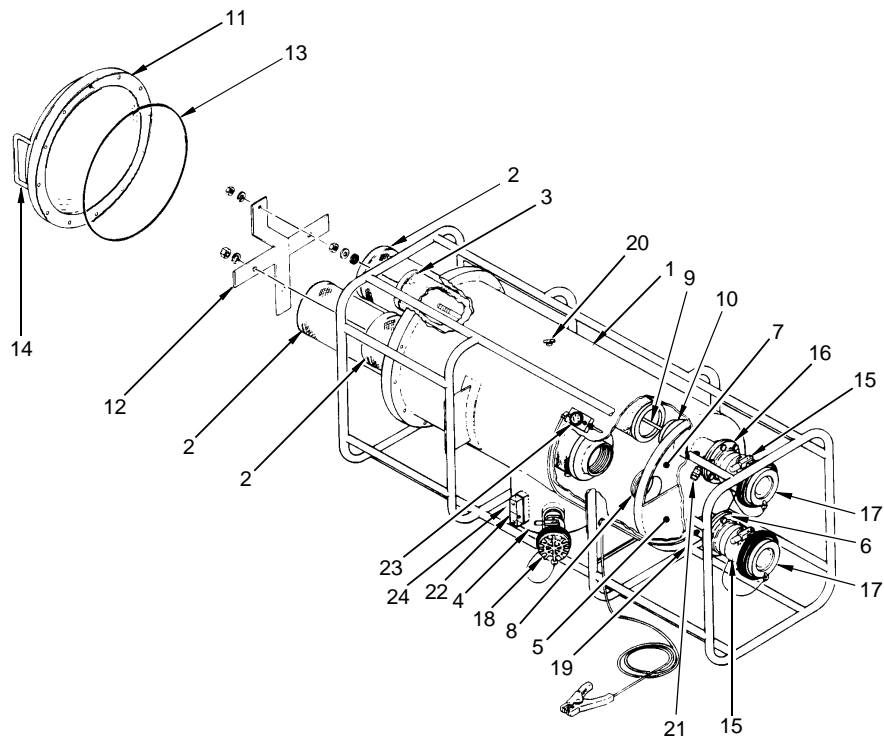

Figure 3. Liquid Fuel Filter-Separator
The liquid fuel filter-separator (figure 3) is an aluminum vessel (1) with an integral frame and is designed to house three coalescer elements (2) and a separator element (3). A sump (4) at the bottom of the vessel (1) collects water and sediment removed from the pumpage by the filter action. A diverter plate (5) located directly behind the inlet port (6) prevents the incoming pressurized pumpage from directly impacting the filter elements (2 and 3) and equalizes pressure across the inlet bulkhead (7). The coalescer elements (2) are one-piece, closed end, threaded-base elements and are retained to the inlet bulkhead (7) by threaded-base adapters (8). The separator element (3) is a one-piece, monel or stainless steel screen coated on both sides with Teflon. It seats over a threaded rod (9) into a friction fit adapter (10) on the inlet bulkhead (7). All four elements are retained in position at the cover (11) end by a cross shaped element retainer (12). An O-ring (13) and a domed aluminum cover (11) seal the access end of the vessel (1). Two handles (14) are provided on the cover (11) for removal and replacement of the cover (11).